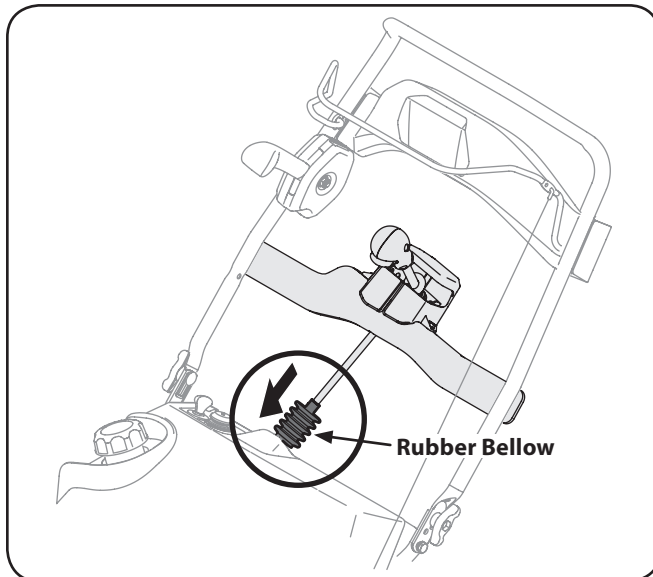

Figure 3-9
- Slide the rubber bellow over the universal joint. See Fig. 3-9.